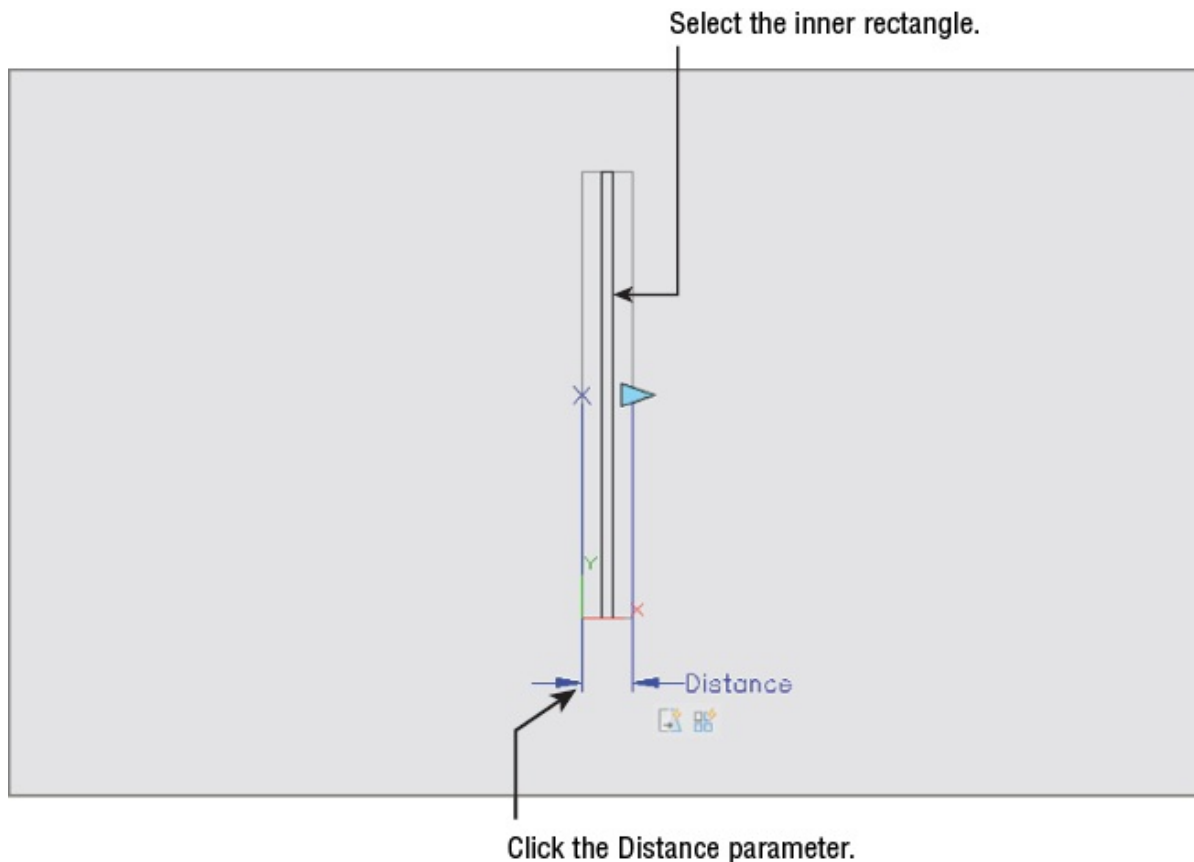

FIGURE 17.34 Adding the Array action to the Railvertical block
4. At the `Select parameter:` prompt, click the blue Linear parameter (labeled as Distance), as shown in Figure 17.34.
5. At the **Select objects:** prompt, select the dark vertical rectangle representing the vertical bar of the railing, as shown in Figure 17.34, and then press **↵**.